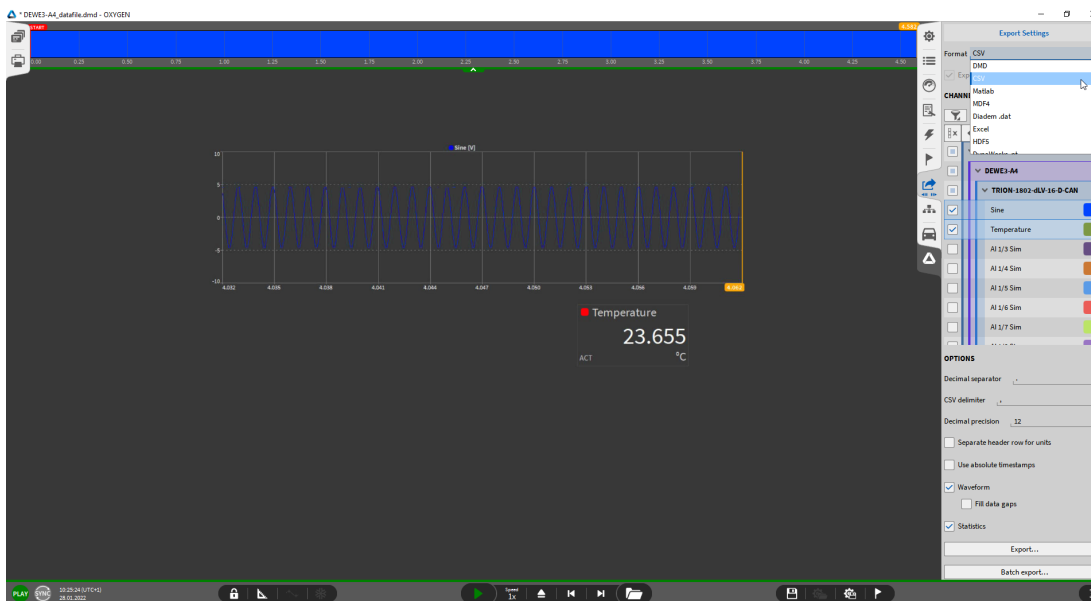

Fig. 36: Exporting data file for post-processing
The green border and PLAY indicator in the lower left corner indicate that a file is loaded for post-processing (see Fig. 36).
4. Click on the export button seen in Fig. 36.